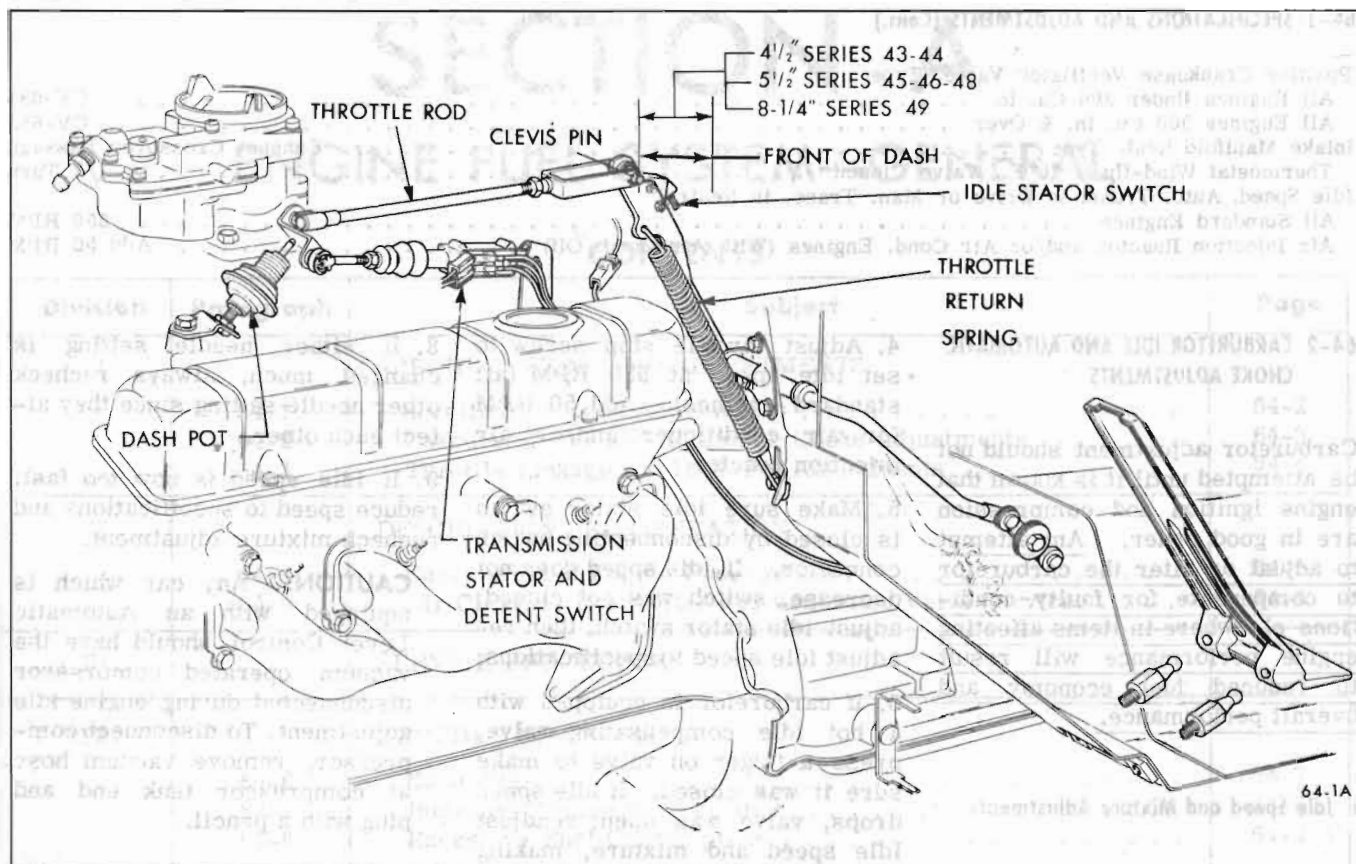

Figure 64-1—Throttle Linkage Adjustment
or lengthen throttle operating rod as required to correct. See Figure 64-1.
3. Operate linkage to open carburetor and make sure carburetor wide open stop is contacting. If carburetor does not reach wide open position and nothing is interfering with throttle linkage, transmission stator and detent switch must be bottoming. To adjust transmission switch, remove fastener and link from carburetor lever pin. See Figure 64-1. With carburetor wide open and switch plunger bottomed, adjust link until it will slip over carburetor lever pin, then shorten link 1-1/2 turns. Reassemble link and fastener, and tighten lock nut.
The carburetor throttle control linkage is designed to provide positive control of the throttle valves through their entire range without being affected by movement of the engine on its rubber mountings. See Figure 64-1.
The accelerator pedal is mounted on two ball studs which are screwed into weld nuts in the floor pan. Depressing the accelerator pedal causes the pedal to make a rolling contact with rollers on the throttle operating lever, forcing the lower part of the lever to pivot forward and down. The lever pivots in a bearing mounted on the body cowl. See Figure 64-1.
The return spring returns the throttle linkage to idle position whenever pressure is released from the accelerator pedal. See Figure 64-1.
On all automatic transmission cars, a transmission control switch is fastened to a pin on the carburetor throttle lever. When the throttle linkage is moved to wide open throttle position, the switch contacts are closed to cause the transmission to "down shift". This switch also has a second set of contacts which close at about 3/4 throttle position to cause the stator blades in the transmission to "switch-the-pitch" to high performance angle. See Figure 64-1.
On all automatic transmission cars, an idle stator switch is installed in a joint of the throttle linkage between the throttle lever and the throttle rod. Whenever the throttle linkage returns to curb idle position, the switch contacts are closed to cause the stator blades to "switch-the-pitch" to high angle. This reduces the transmission load on the engine at idle, thereby reducing the tendency of the car to creep. See Figure 64-1.